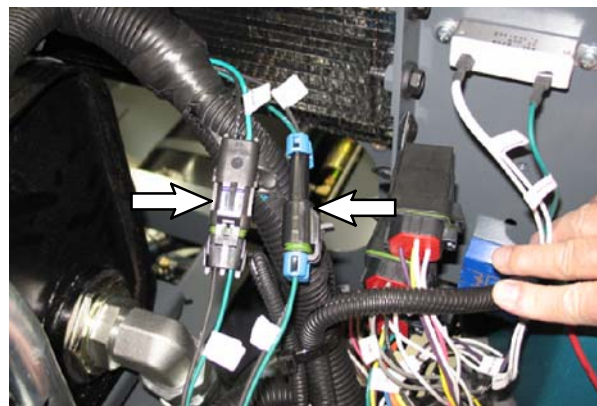

FIG. 9
Machines with overhead guards: Connect the backup harness (1) to the main wire harness connector located near the engine control bracket. Refer to the labels on each harness and Fig. 9 for connection locations.